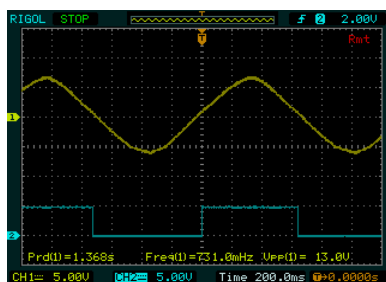

Figure 15.  $\leq 1\text{Hz}$  Sine
16. Set the Frequency RANGE to the 10Hz range and the FINE FREQUENCY to the x0.1 position. Trigger a single sweep of the oscilloscope and verify the Sine wave (CH1) and clock output (CH2) frequencies are  $\leq 1\text{Hz}$  ( $\geq 1\text{SEC}$ ) and are non-distorted as shown in Figure 15.